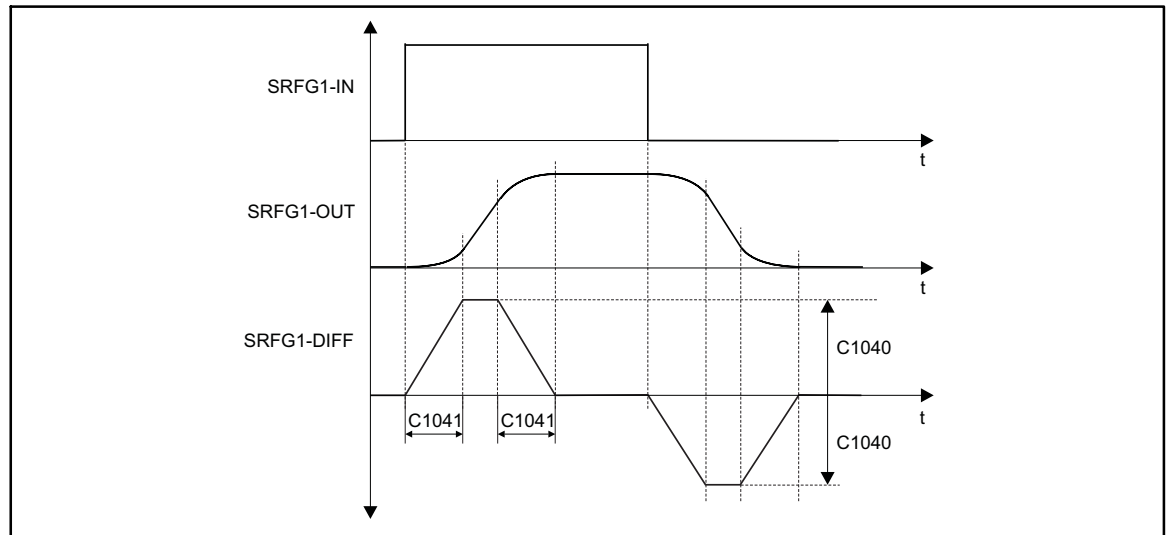

Fig. 2-136
- The acceleration characteristic (signal at SRFG1-DIFF) in Fig. 2-136 shows the linear rising or falling of the signal during the rounding time (C1041).